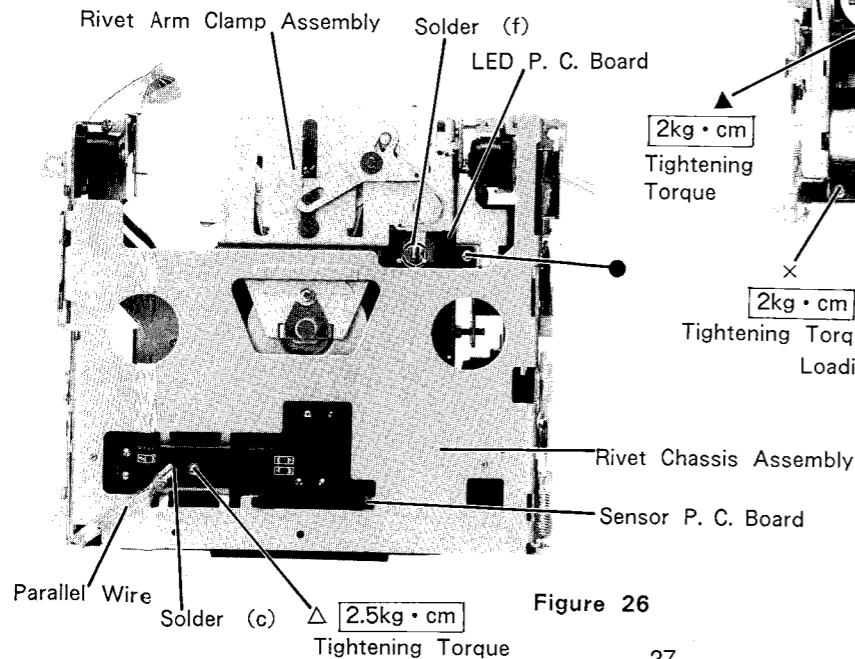

Figure 26
- (1) Unsolder the solder (c) as shown in Figure 26.
- (2) Remove one screw marked "△" as shown in Figure 26.
- (1) Unsolder the solder (f) as shown in Figure 26.
- (2) Remove one screw marked "●" as shown in Figure 26.